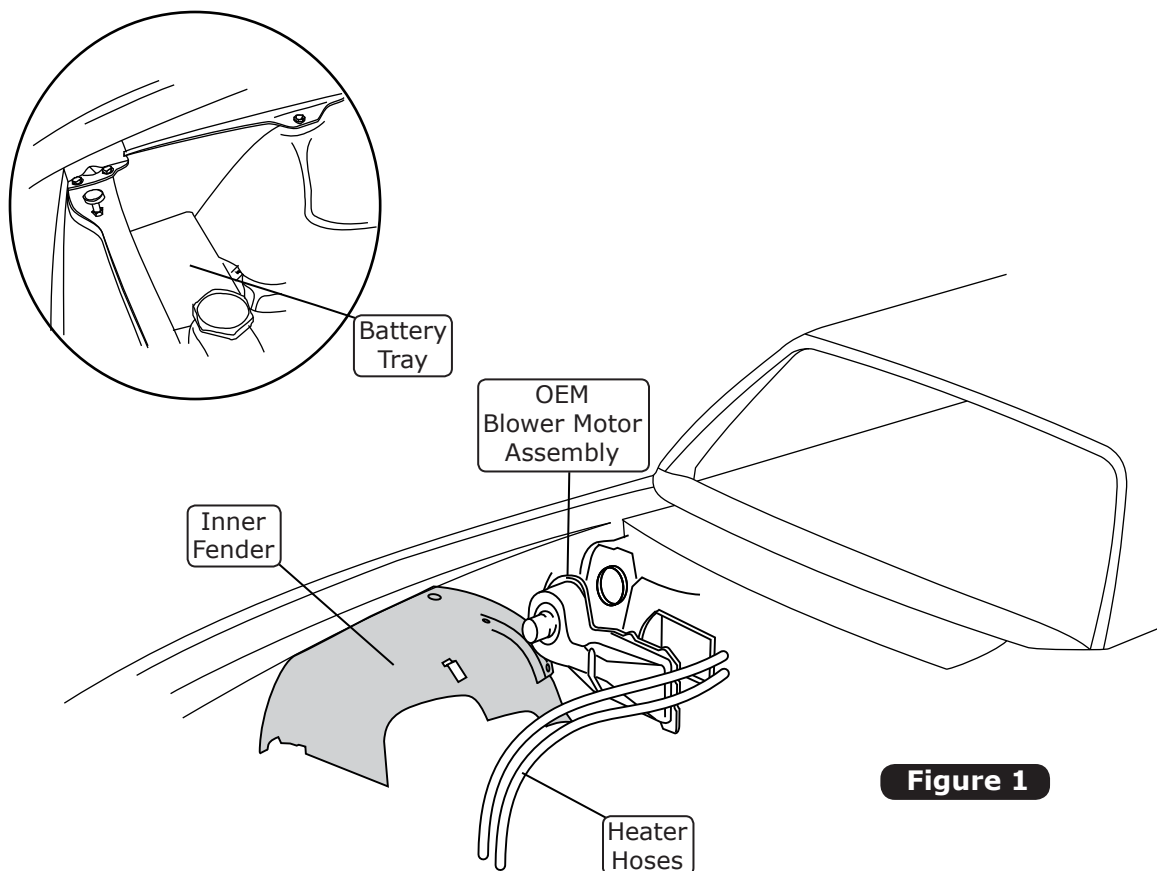

Figure 1
5. Remove the OEM heater hoses (discard) (See Figure 1, below).
6. Remove the OEM heater wiring (discard) (See Figure 1, below).